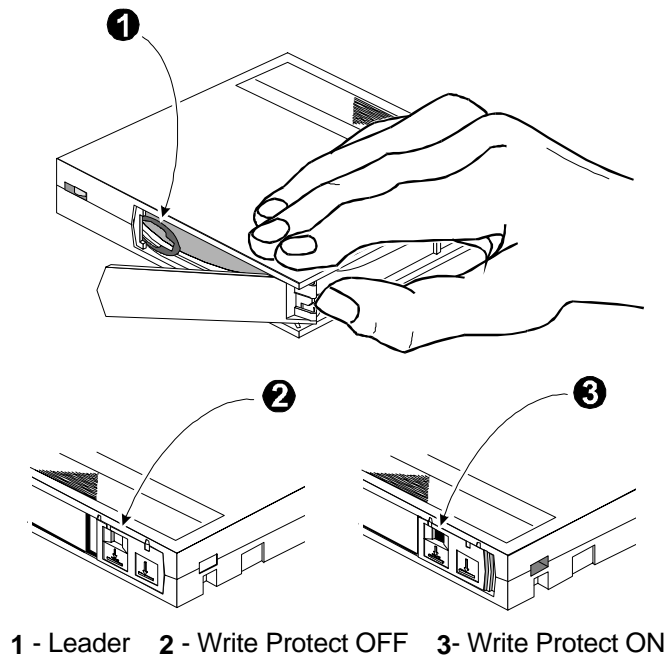

Figure 3-43 DLTtape Cartridge
- Inspect the leader by opening the cartridge door as shown in Figure 3-43. The leader should be positioned as shown in view (1), and should protrude at about a five degree angle from the case. If the leader is out of position, **do not use the cartridge**; damage to the drive could result.
The write protection switch of a DLTtape cartridge is also shown in Figure 3-43. To enable data recording, slide the write protect switch to the right so that no orange color is visible through the window in the write protect switch (2). To write protect the DLTtape cartridge, slide the write protect switch to the left until the orange indicator shows through the window on the write protect switch (3).
The cleaning cartridge is similar in appearance to the cartridge shown in Figure 3-43. The command to run the cartridge is issued from the control panel of the Global Control Module. The procedures that follow tell you how to install a cleaning cartridge, how to clean a drive, and how to remove the cleaning cartridge.